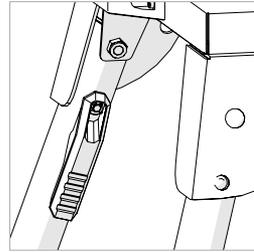

Fig. 1
- Squeeze the locking/unlocking lever (**Fig. 1**) towards the leg to release from the stored position.
- Repeat until all four (4) legs have been deployed.